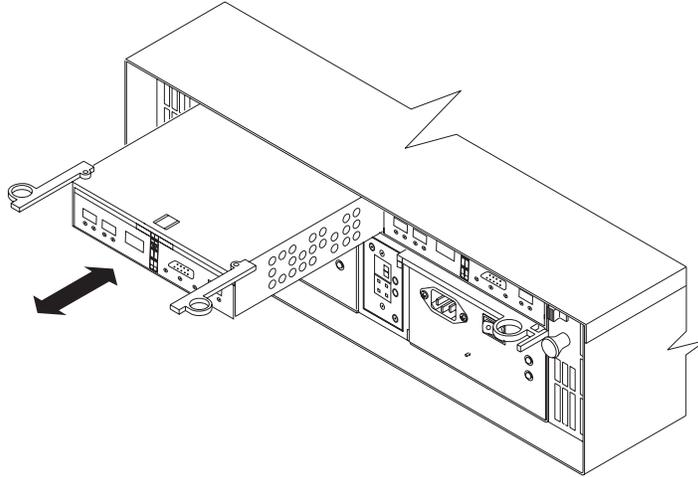

Figure 104. Installing a new RAID controller
20. Install the RAID controller, as shown in Figure 104 on page 144.